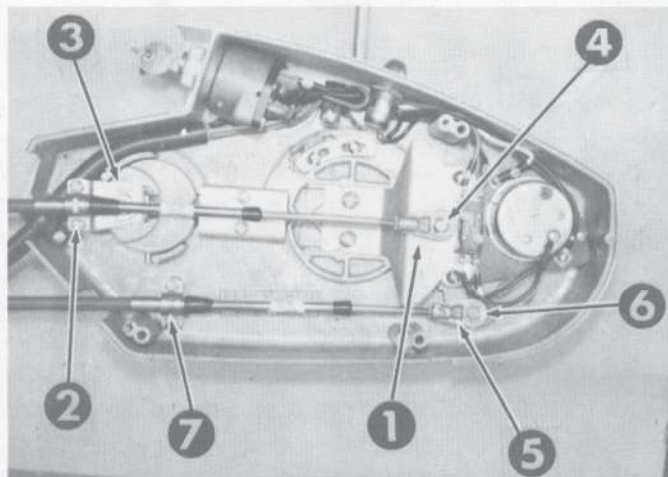
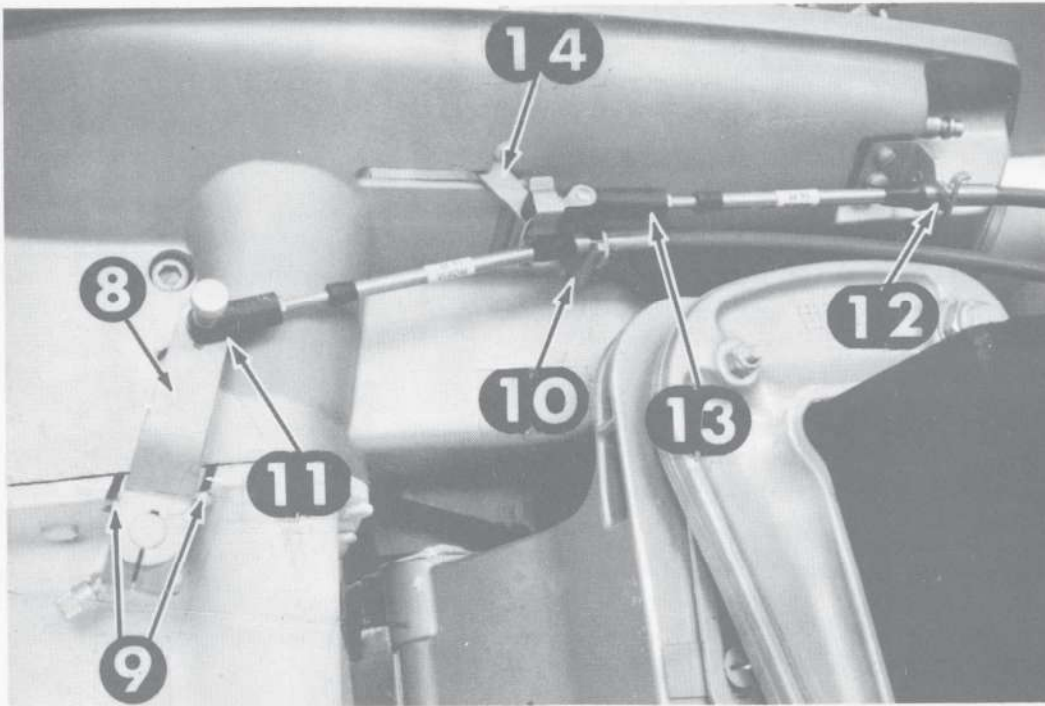

Figure 1
Figure 2
- 3.) Drill three holes $7/32''$ dia. in drill points on bosses inside control housing for mounting outside control. (Two of these are located on the bottom and one above center and to the rear of the control). (see figure 1).
B. Throttle Cable Installation (refer to figure 1)
2. Remove the snap ring which holds fitting (1).
3. Remove clamp (2) from neutral throttle swivel (3).
4. Thread fitting (1) onto either end of either cable 12 full turns (equalling 3/8"). All cables and all cable ends are alike. Lock the cable to the fitting with the lock nut on the cable.
5. Install the fitting, dimple side up, on throttle cam pivot (4) and lock in place with the snap ring.
6. Place the cable in the fork of neutral throttle swivel (3) and install clamp (2) with the clamp protrusion seated in the groove of the cable ferrule.
7. Thread the black plastic THROTTLE terminal, the one with the hole and stainless steel locking clip (see #13, figure 2) onto the other end of the cable. Do not tighten the lock nut.
C. Shift Cable Installation (refer to figure 1)
1. Remove fitting (5) from shift pivot (6). Remove clamp (7).
2. Thread fitting (5) 12 turns onto either end of the remaining cable and lock with the lock nut.
3. Install the fitting, dimple side up, on shift pivot (6) and re-install clamp (7).
4. Thread the black plastic SHIFT terminal, the one with the spring loaded pin, (see #11, figure 2) onto the other end of this cable. Do not tighten the lock nut.
E. Shift Cable Terminal Adjustment (refer to figure 2)
2. Move the shift lever (8) on the starboard side of the upper leg (see figure 2) full forward until it lines up between the two alignment notches (9) on the flange. If the lever does not move forward easily, turn the propeller slightly to allow the clutch dog to engage the gears.
3. Open the lock on the rear anchor clamp (10) and insert the groove of the shift cable ferrule into the clamp fork. Close the anchor clamp lock.
4. Keep slight tension on the cable by "pulling" on the shift terminal (11) while threading the terminal forward or back until the metal pin just lines up with the slotted hole in the shift lever. THEN GO THREE MORE TURNS CLOCKWISE to divide the overtravel of the cable, and lock the terminal to the cable with the lock nut.
F. Throttle Cable Terminal Adjustment (refer to figure 2)
2. Insert the groove of the throttle cable ferrule into the forward anchor clamp fork (12) and close the clamp lock.
3. Adjust throttle terminal (13) so that the hole in the terminal fits freely over the pin on bellcrank (14). (See figure 2) DO NOT preload the throttle terminal.